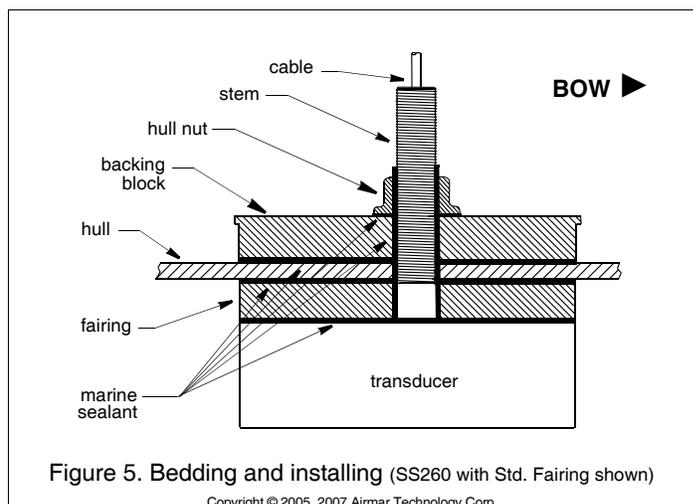

Figure 5. Bedding and installing (SS260 with Std. Fairing shown)
1. Remove the hull nut (see Figure 5).
Standard Fairing—If a fairing is being used, seat the transducer firmly in/against the fairing with a pushing twisting motion. Apply a 2mm (1/16") thick layer of marine sealant to the surface of the fairing that will contact the hull and the surface of the backing block that will contact the hull (see Figure 5).